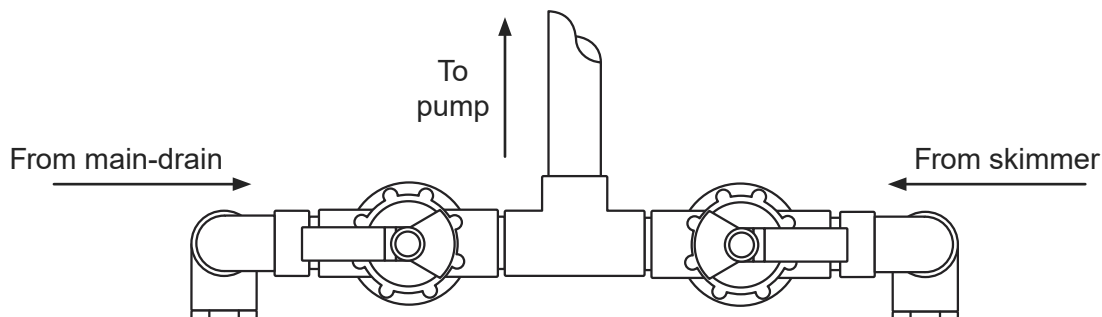

Figure 22.
1. In order to evacuate the lines during the winterization process it is recommended that a 2-Way shut-off valve be installed on each suction branch-line preceding the main-line feeding the pump (Figure 22).